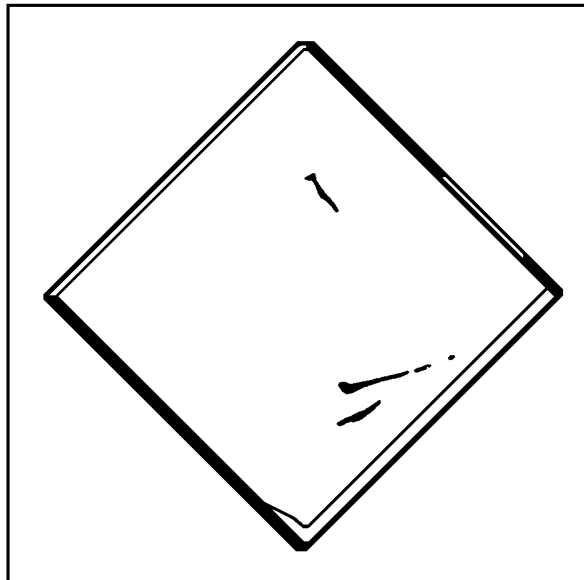

Figure 3-7
- (1) Accordion fold the towels and drapes.
- (2) Leave courtesy tabs so that the towels and drapes are easily removed from the pack.
- a. Place the wrapper on a flat surface with the point of one corner toward you. (See Figure 3-7.)